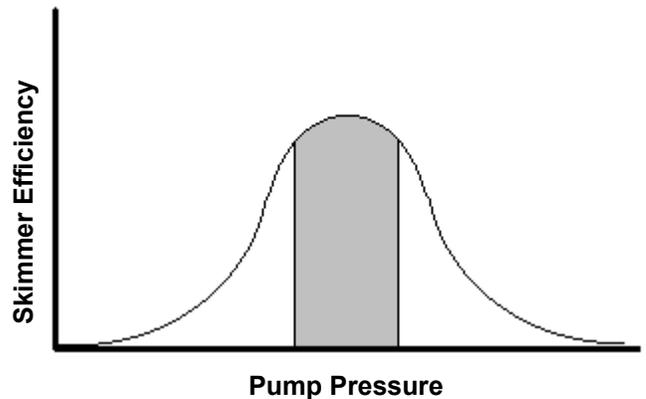

FIG. 1
- The shaded region in Fig. 1 is where your skimmer will be running most efficiently. The pumps listed below fall in this region, and performance will be maximized while keeping energy costs down.